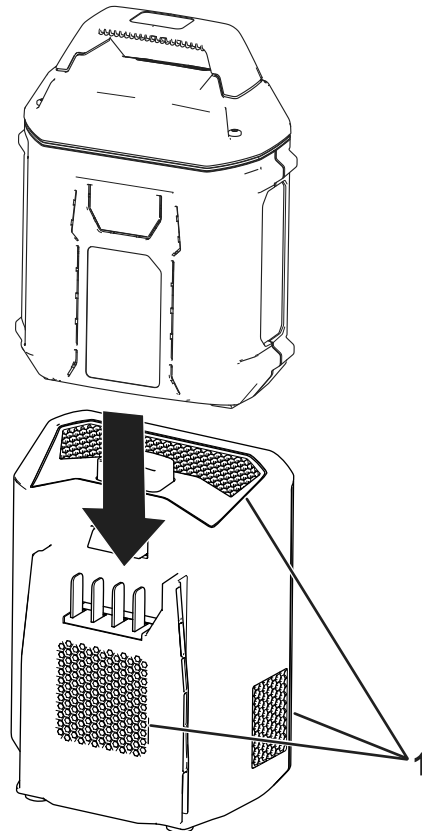

Figure 4
1. Ensure that the vents on the battery and inverter are clear of any dust and debris (Figure 4).
3. Line up the cavity in the battery pack with the tongue on the inverter (Figure 4).